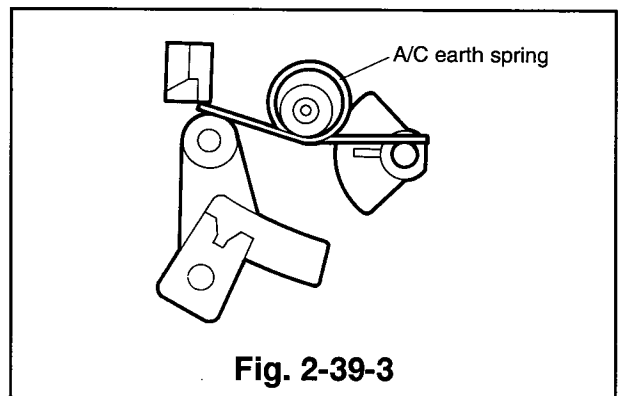

Fig. 2-39-3
- ① Make sure that the spring(A/C earth spring) is as shown in Fig. 2-39-3.